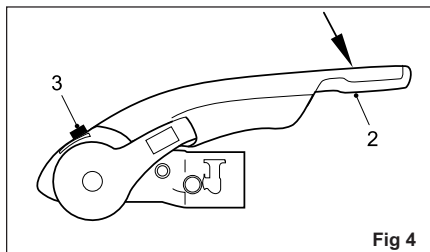

Fig 4
**WARNING:** The coupling is correctly engaged when the green edge of the safety indicator button is visible (Fig. 4/Item 3).
- To operate the Stabiliser (once coupled to the towball), simple press the stabiliser lever down as far as it will go (Fig. 4/Item 2).